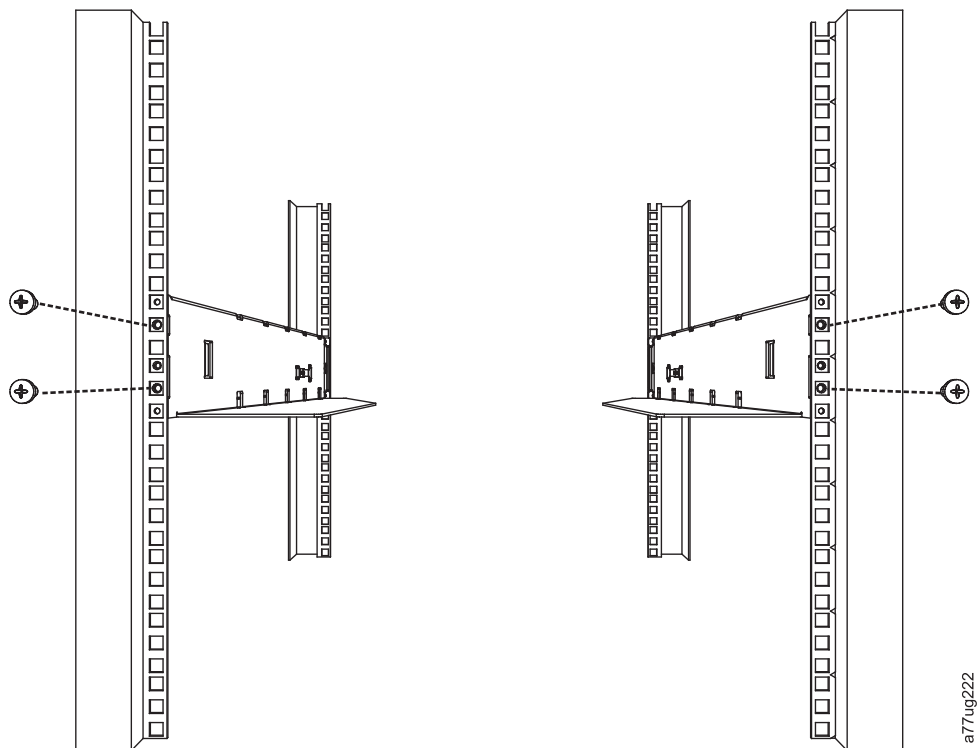

Figure 10-25. Front view of rack showing screw placement
2. With assistance, slide the replacement library enclosure onto the metal rails that are already in position in the rack (see Figure 10-25).